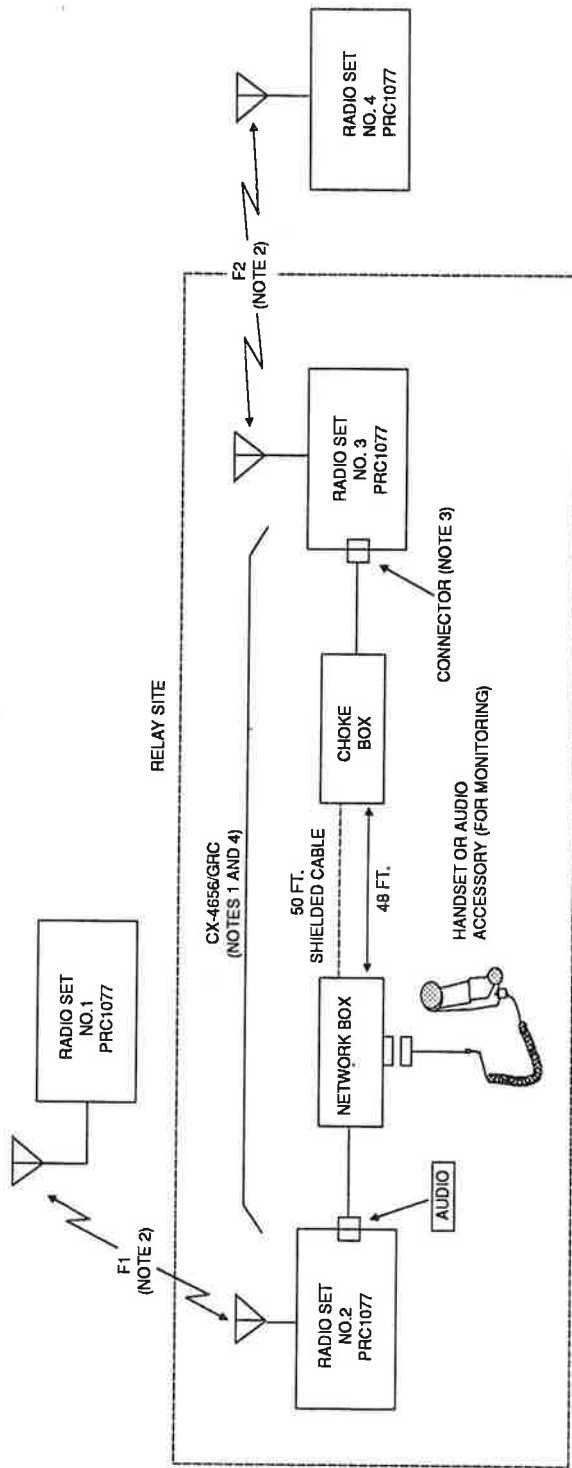

FIGURE 7-2.
g. Connect the transceivers with the 1077RETRAN repeater cable kit. Switch both transceivers to the RETRANSMIT mode. Figure 7-2 shows the transceiver connections.